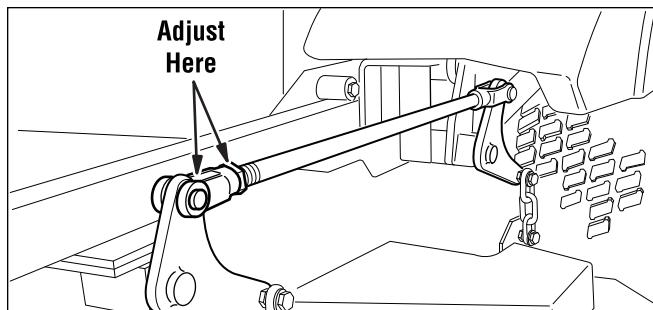

Figure 39. Adjust Lift Rod Timing
- See Figure 39. To adjust the lift rod, loosen the jam nut on the front clevis then remove the 1/2" clevis pin fastening the clevis to the lift pivot arm. Turn the clevis clockwise to shorten the distance between the rod pivots or counterclockwise to lengthen the distance between the rod pivots. Reinstall the clevis on the lift pivot arm and secure with the 1/2" clevis pin previously removed. Tighten the jam nut against the clevis.